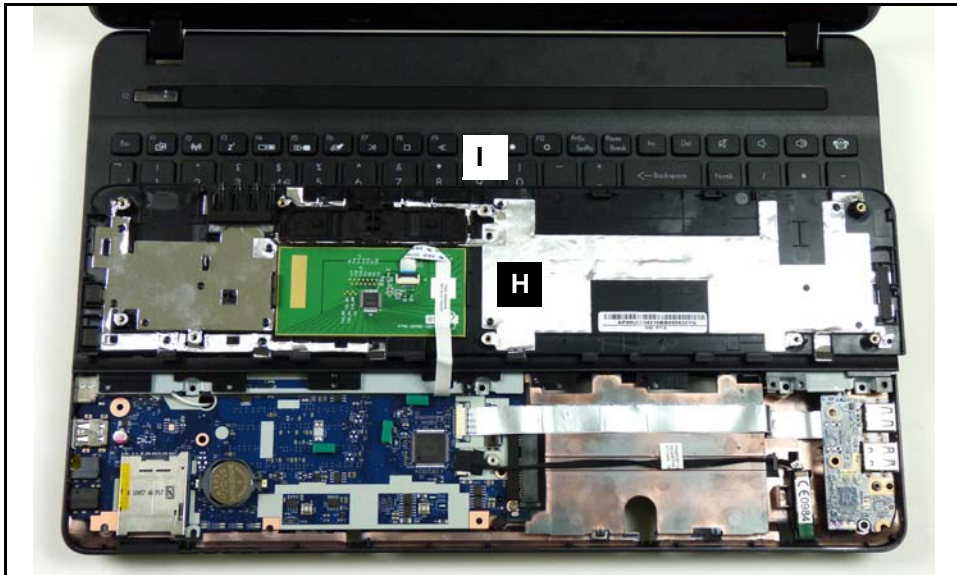

Figure 3-25. Touchpad FFC Removal from Touchpad Board
1. Place palmrest assembly (H) on keyboard assembly (I). (Figure 3-25)